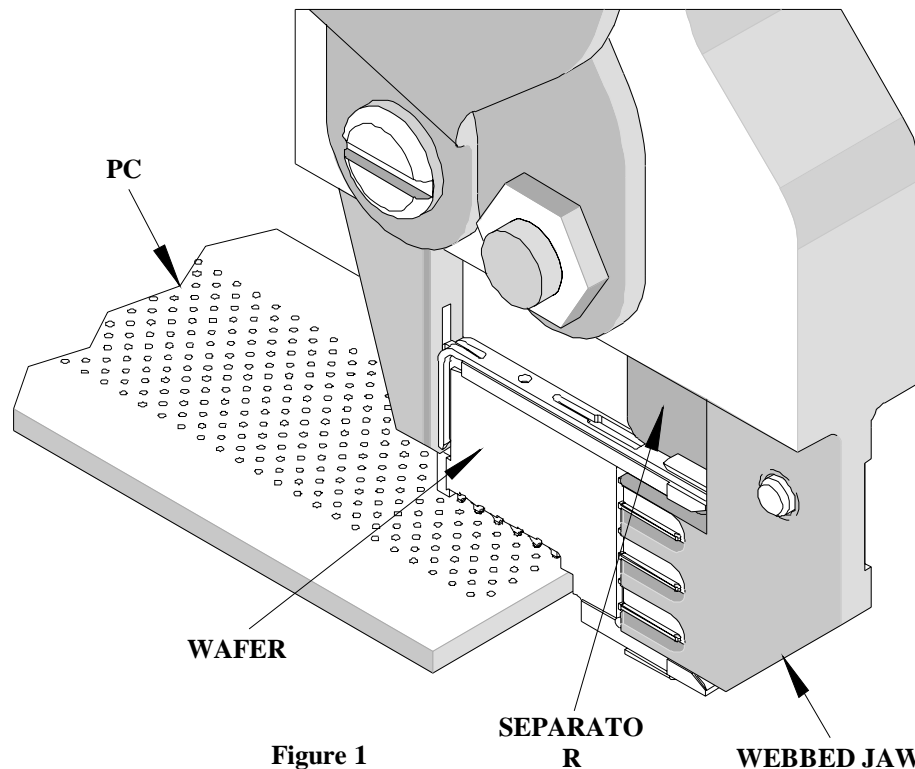

Figure 1
3. Position the 62202-1050 wafer removal tool over the defective wafer with the webbed jaw of the removal tool located inside the pin contact area of the wafer and the slotted jaw over the nubs on the other end of the wafer. See Figure 1.